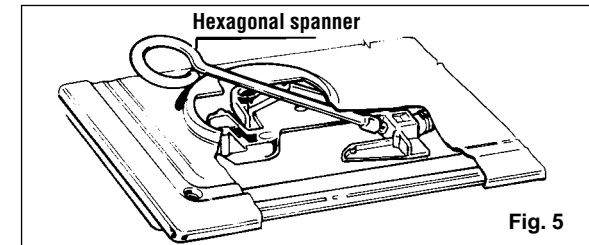

Fig. 5
- insert the hexagonal spanner (supplied) into the burner support (Fig. 5)